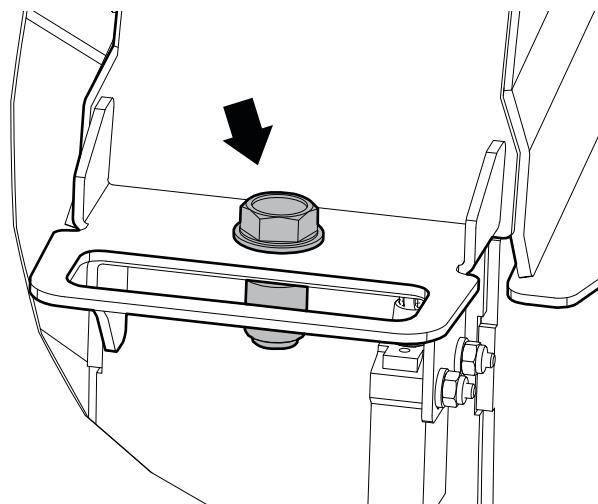

Figure 24—Upper-rotor-housing fastener
2. Remove the upper-rotor-housing fastener, and then open the upper rotor housing. See *Figure 24*.
9. Install the upper-rotor-housing fastener. See *Figure 24*. Use a calibrated torque wrench to torque the fastener to **80 lbf•ft (110 N•m)**.
2. Remove the upper-rotor-housing fastener. See *Figure 24* on page 39.
5. Install the upper-rotor-housing fastener. See *Figure 24* on page 39.